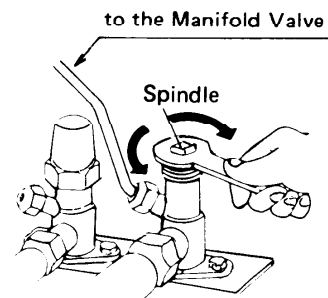

Fig. 13
- e) Remove the cap from the wide pipe service valve and turn the spindle gradually until it is back seated. Fig. 13